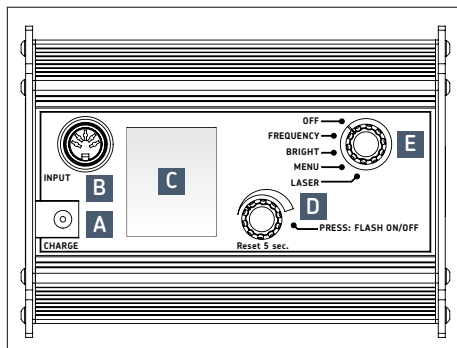

Fig.1 – Stroboscope SKF TKRS 41
5.1 Connectors (→ fig. 1)
1. Charge the device: plug the charger into the CHARGE socket (A) to the rear of the device (→ fig. 1).
2. Direct the device at a moving object and switch on. Turn the selector switch (E) one notch to the left to "FREQUENCY".